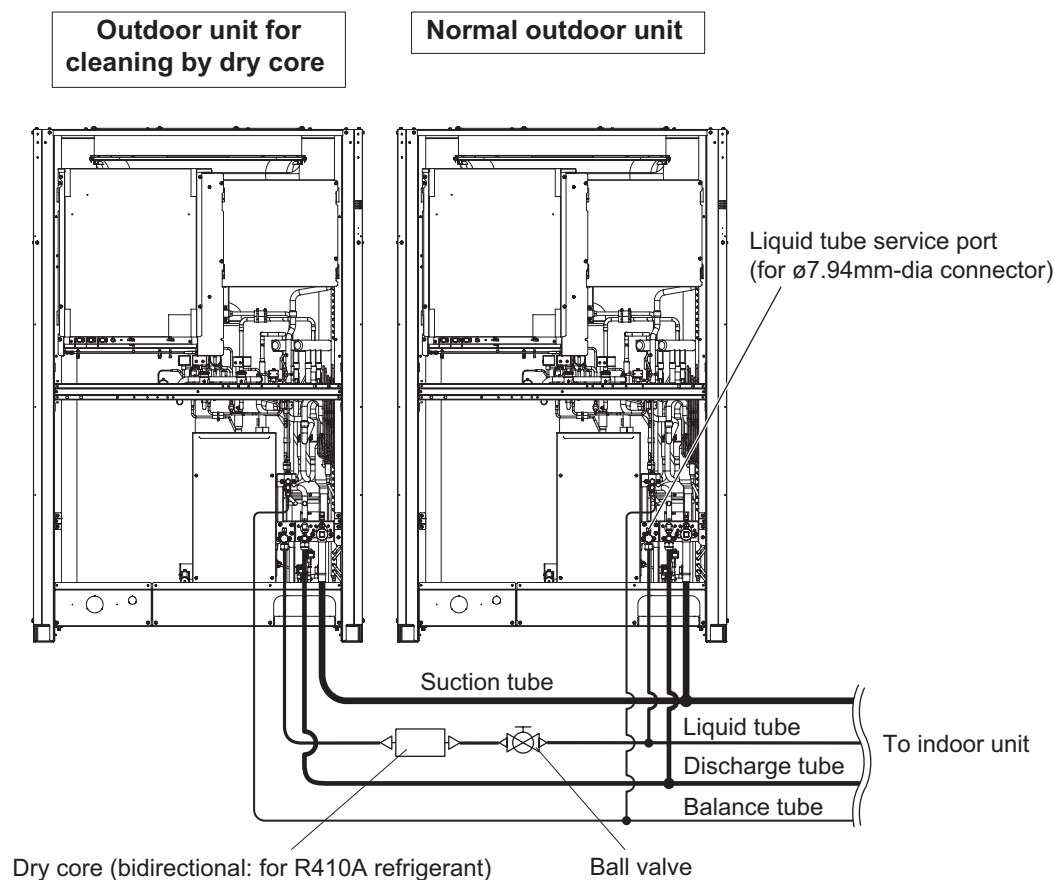

Fig. 16
(5) As shown in Fig. 16, disconnect the tube that runs from the liquid tube valve to the ball valve on all outdoor units where dry cores will be attached. Then attach the dry cores.
(6) At all outdoor units where dry cores are attached, pressurize with 3.80 MPa of nitrogen from the liquid tube service port and check for leaks.
(7) After evacuating all nitrogen gas from the tube, apply vacuum from the liquid tube service port to all outdoor units where dry cores are attached until the pressure is –101 kPa {–755 mmHg, 5 Torr} or less.
(8) Fully open the liquid tube valve and ball valve on all outdoor units where dry cores are attached.
(9) Operate all outdoor units for approximately 3 hours (in either Heating or Cooling mode or mixed Cooling and Heating mode).
(10) Follow the above procedure, and replace all dry cores with new dry cores.
(11) Operate all outdoor units for approximately 20 minutes (in either Heating or Cooling mode or mixed Cooling and Heating mode).
(12) Follow the instructions in “2. Discharging Compressor Oil” and drain a small amount of the oil from the oil separators of all outdoor units where dry cores are attached. Check the color phase, odor, and other characteristics.
- (13) If the results show that dry core cleaning is still necessary (for example, a color phase of 4.0 or higher)\*, return to Step (11) and repeat until the results are normal (including a color phase of 3.5 or less)\*.
- (1) See “4-2-3. Refrigerant recovery procedures (2) : Indoor unit with no ball valve equipped”. Perform pump down of the refrigerant from all indoor units and inter-unit tube to the outdoor unit side.
- (2) Cut the liquid tube at all outdoor units where dry cores will be attached, then attach the dry cores and ball valves as shown in Fig. 16.
- (3) For the next steps, see the steps (6) – (17) in “(A) If a ball valve is installed on the outdoor unit” on the previous page.